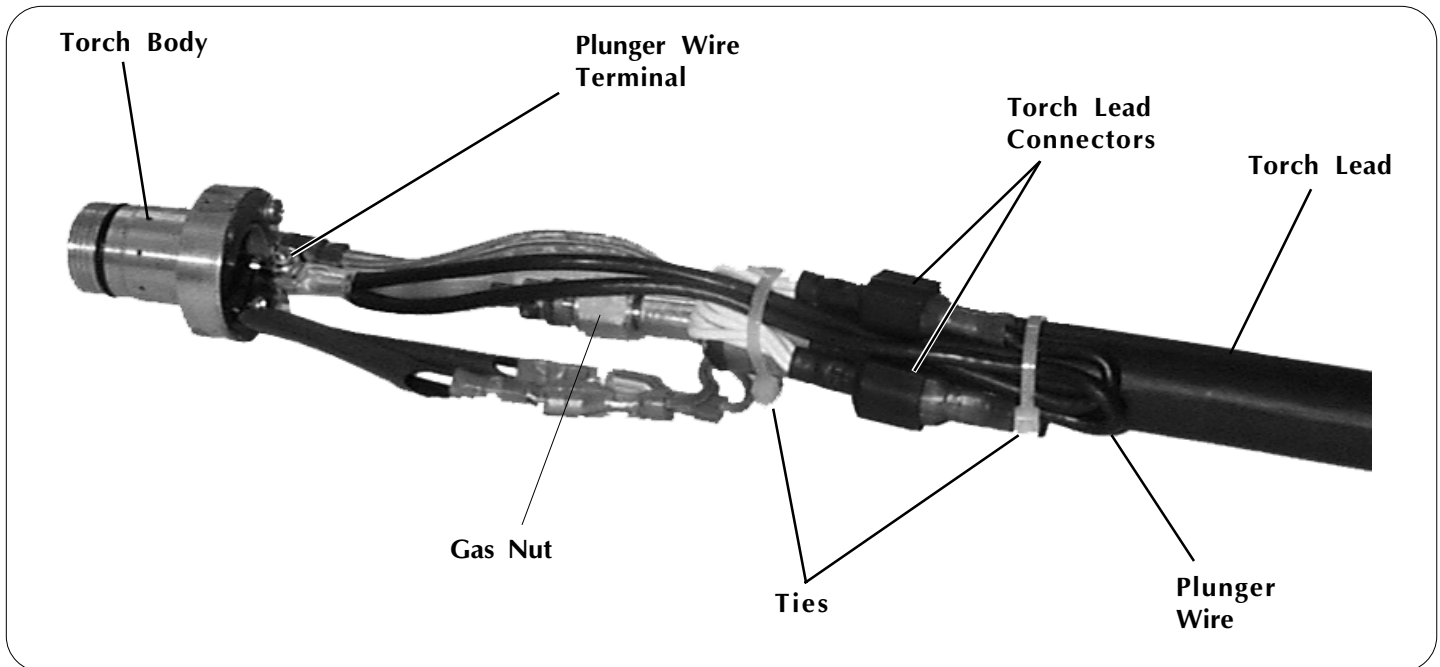

Figure 2 PAC121MS Torch Plunger Wire - Install
6. Tie the plunger wires back on the torch lead as shown in Figure 2. With the ties in place and snugged down, adjust the wires so that there is 1/4 inch (6 mm) of slack between the wires and the gas nut. Tighten and trim ties.